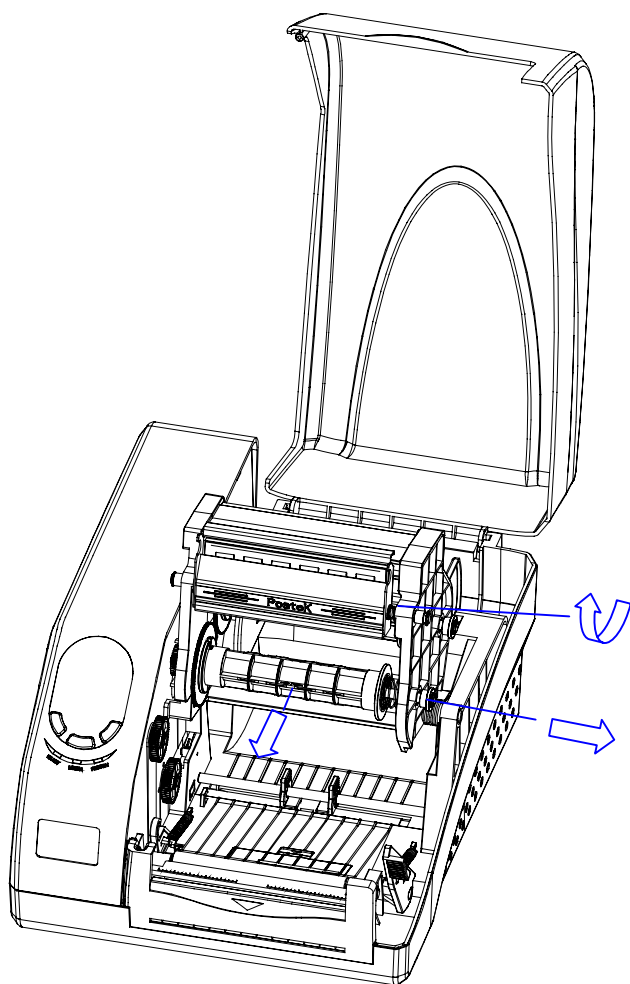

Figure 5-2
3. Lift the Printhead Module to expose the ribbon supply holder (Figure 5-2).